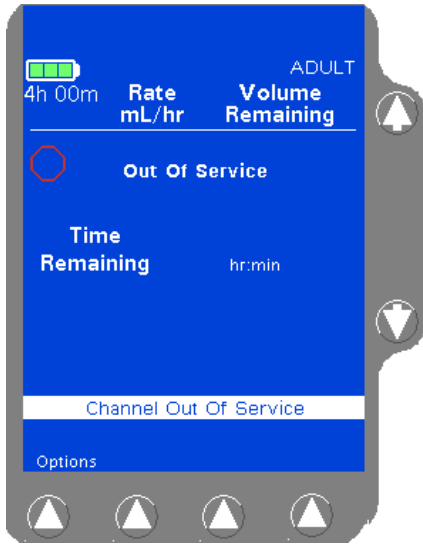

Figure 8-4 Channel Out of Service Display
4. If the tube loading mechanism is open, **close the regulating clamp on the administration set** and remove the set. Press the **Done** soft key. The channel is now shown as **Out Of Service** (Figure 8-4). The pump cannot be used to deliver infusions, but the **Volume History** key can be used to retrieve history information. Continue to Step 6.
6. Press the **Done** soft key. The Main Display shows that the pump is out of service (Figure 8-4). The pump cannot be used to deliver infusions, but the **Volume History** key can be used to retrieve history information.